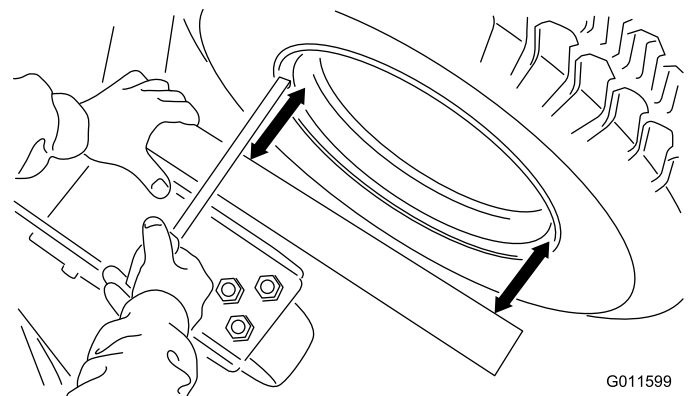

Figure 7
- Mounting bolts, washers & locknuts (8)
- Place a square or straight edge against the deck weldment that contains the castor fork assembly (Figure 7). Do not use the caster fork assembly itself.
- Measure from the inset bead of the rim (not the outer edge of the rim) to the straight edge at two locations as indicated in Figure 7. Rim and paint irregularities make the outer edge an unreliable point of measure. These two measurements